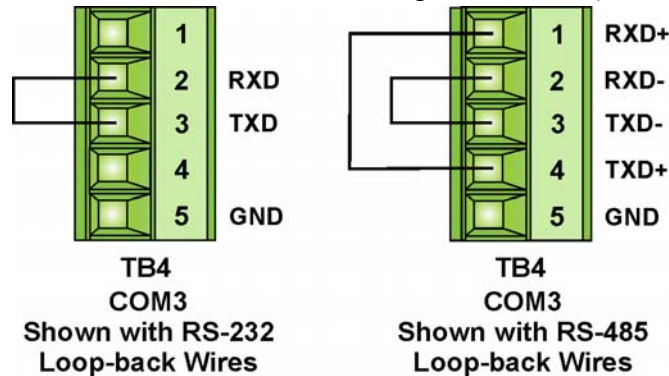

Figure 5-7. COM3 RS-232 & RS-485 Loop-back Wires
- Port 3 - RS-232 use loop-back wires (see *Figure 5-7*).
- Port 3 - RS-485 use loop-back wires or CPU Switch SW3 (see *Figure 5-7*).